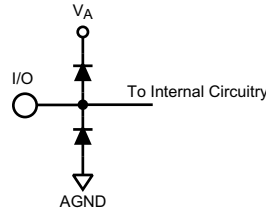

Figure 2.
- (1) The inputs are protected as shown below. Input voltage magnitudes above V_A or below GND will not damage this device, provided current is limited see Note 4 in the Absolute Maximum Ratings table. However, errors in the A/D conversion can occur if the input goes above 2.6V or below GND as described in the Operating Ratings section (See Figure 2).
- (2) To ensure accuracy, it is required that $|V_A - V_D| \leq 100\text{ mV}$ and separate bypass capacitors are used at each power supply pin.
- (3) With the test condition for $V_{REF} = +1.0V$ (2V_{P-P} differential input), the 14-bit LSB is 122.1 μV .
- (4) Typical figures are at $T_A = 25^\circ\text{C}$ and represent most likely parametric norms at the time of product characterization. The typical specifications are not verified.
- (5) I_{DR} is the current consumed by the switching of the output drivers and is primarily determined by load capacitance on the output pins, the supply voltage, V_{DR} , and the rate at which the outputs are switching (which is signal dependent). $I_{DR} = V_{DR}(C_0 \times f_0 + C_1 \times f_1 + \dots C_{11} \times f_{11})$ where V_{DR} is the output driver power supply voltage, C_n is total capacitance on the output pin, and f_n is the average frequency at which that pin is toggling.